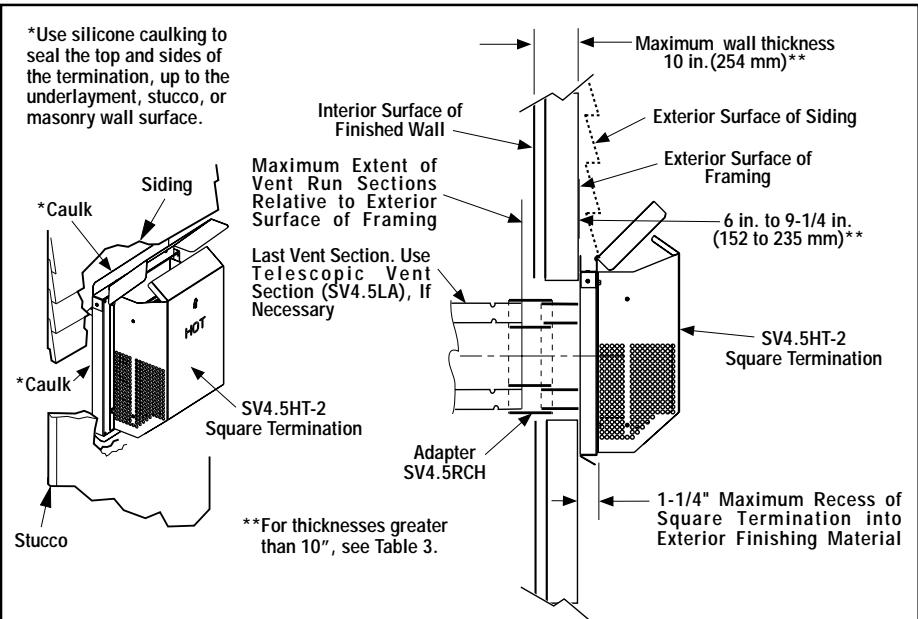

Figure 28
L. Assemble vent run to exterior wall - If not previously measured, locate the center of the vent at the exterior wall. Prepare an opening as described in Step D. Assemble the vent system to point where the terminus of the last section is within 7 in. (178 mm) to 11-1/4 in. (286 mm) inboard of the exterior surface to which the SV4.5 HT-2 termination is to be attached, see *Figure 28*.
If the terminus of the last section is not within this distance, use the **telescopic vent section SV4.5LA**, as the last vent section. For wall thicknesses greater than that shown in **Figure 28**, refer to **Table 3 on page 18**. This table lists the additional venting components needed (in addition to the termination and adapter) for a particular range of wall thicknesses.
1. Install the square termination (SV4.5HT-2)- For the last step , from outside the exterior wall, slide the collars of the termination onto the adapter (the outer over the outer and the inner inside the inner) until the termination seats against the exterior wall surface to which it will be attached. Orient the housing of the termination with the arrow pointed upwards. Secure the termination to the exterior wall. **The horizontal termination must not be recessed into the exterior wall or siding by more than the 1-1/4"** (32 mm) as shown in **Figure 28**.